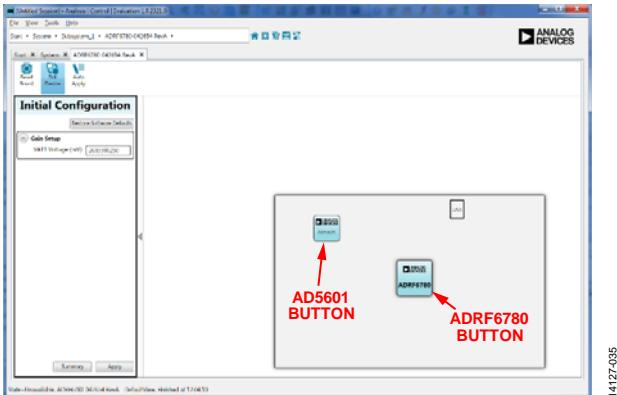
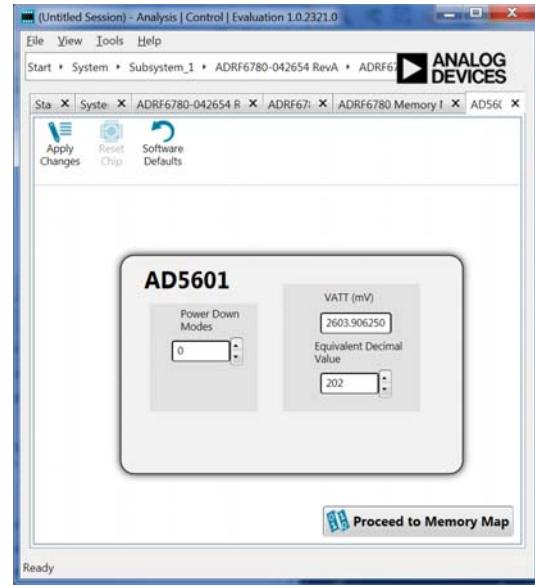

Figure 9. Initial Configuration for the Gain Setup and Board Plugin View
Figure 13. AD5601 nanoDAC User Interface
4. The **ADRF6780-042654**, Rev. A tab then opens. On the left-side of the screen, click **Initial Configuration** to open this menu. Go to **Gain Setup** to enter the VATT voltage Note that 2600 mV is the highest gain for the device (see Figure 9). Click **Apply** and then double-click the **ADRF6780** button (see the middle of the screen shown in Figure 9).
When using an external power supply for the VATT voltage, use the AD5601 nanoDAC plugin to change the voltage or power down the nanoDAC. To open the nanoDAC plugin, select the **AD5601** tab at the top of the ACE software window or double click the **AD5601** button within the **ADRF6780-042654, Rev. A** tab (see Figure 9). Figure 13 shows the AD5601 nanoDAC user interface. The user interface contains two sections: the **Power Down Modes** section and the VATT voltage section.
After making any changes to the voltage or the power-down mode, click **Apply Changes** shown in the top left of the ACE software window (see Figure 13). When the **Auto Apply** button is selected in the **ADRF6780-042654, Rev. A** tab, these changes take place automatically; therefore, there is no need to click **Apply Changes**.